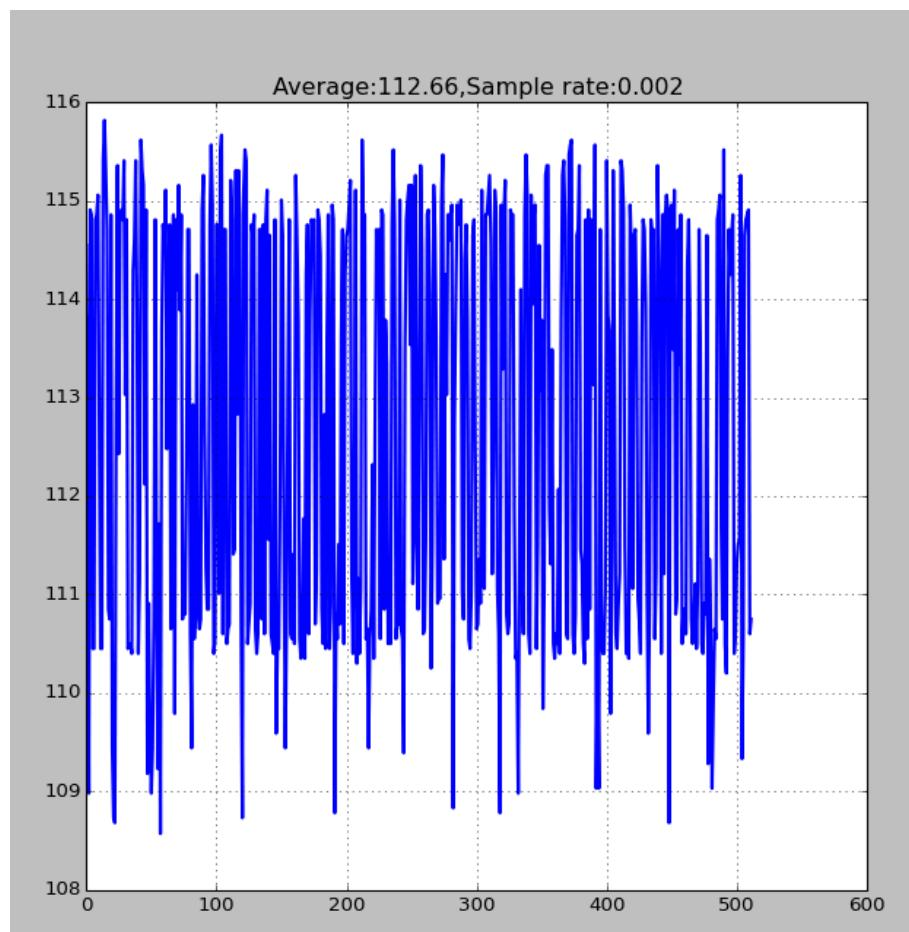

Figure 4-9. Current Measurement of Packet Send Operation Power Consumption Test #3
- Execute the Python script to run the power consumption test on ESP-Launcher in the mode of 802.11n, MCS7, Pout = +13 dB. The average power consumption is 112.66 mA, as Figure 4-9 shows: